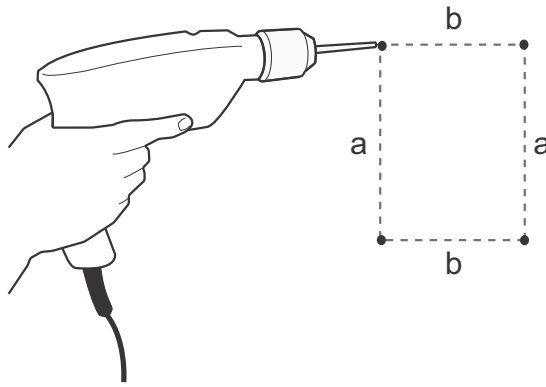

Fig. 30 Drilling holes for mounting
1. Mark and drill holes. See fig. 30; also see section Main dimensions and weight.